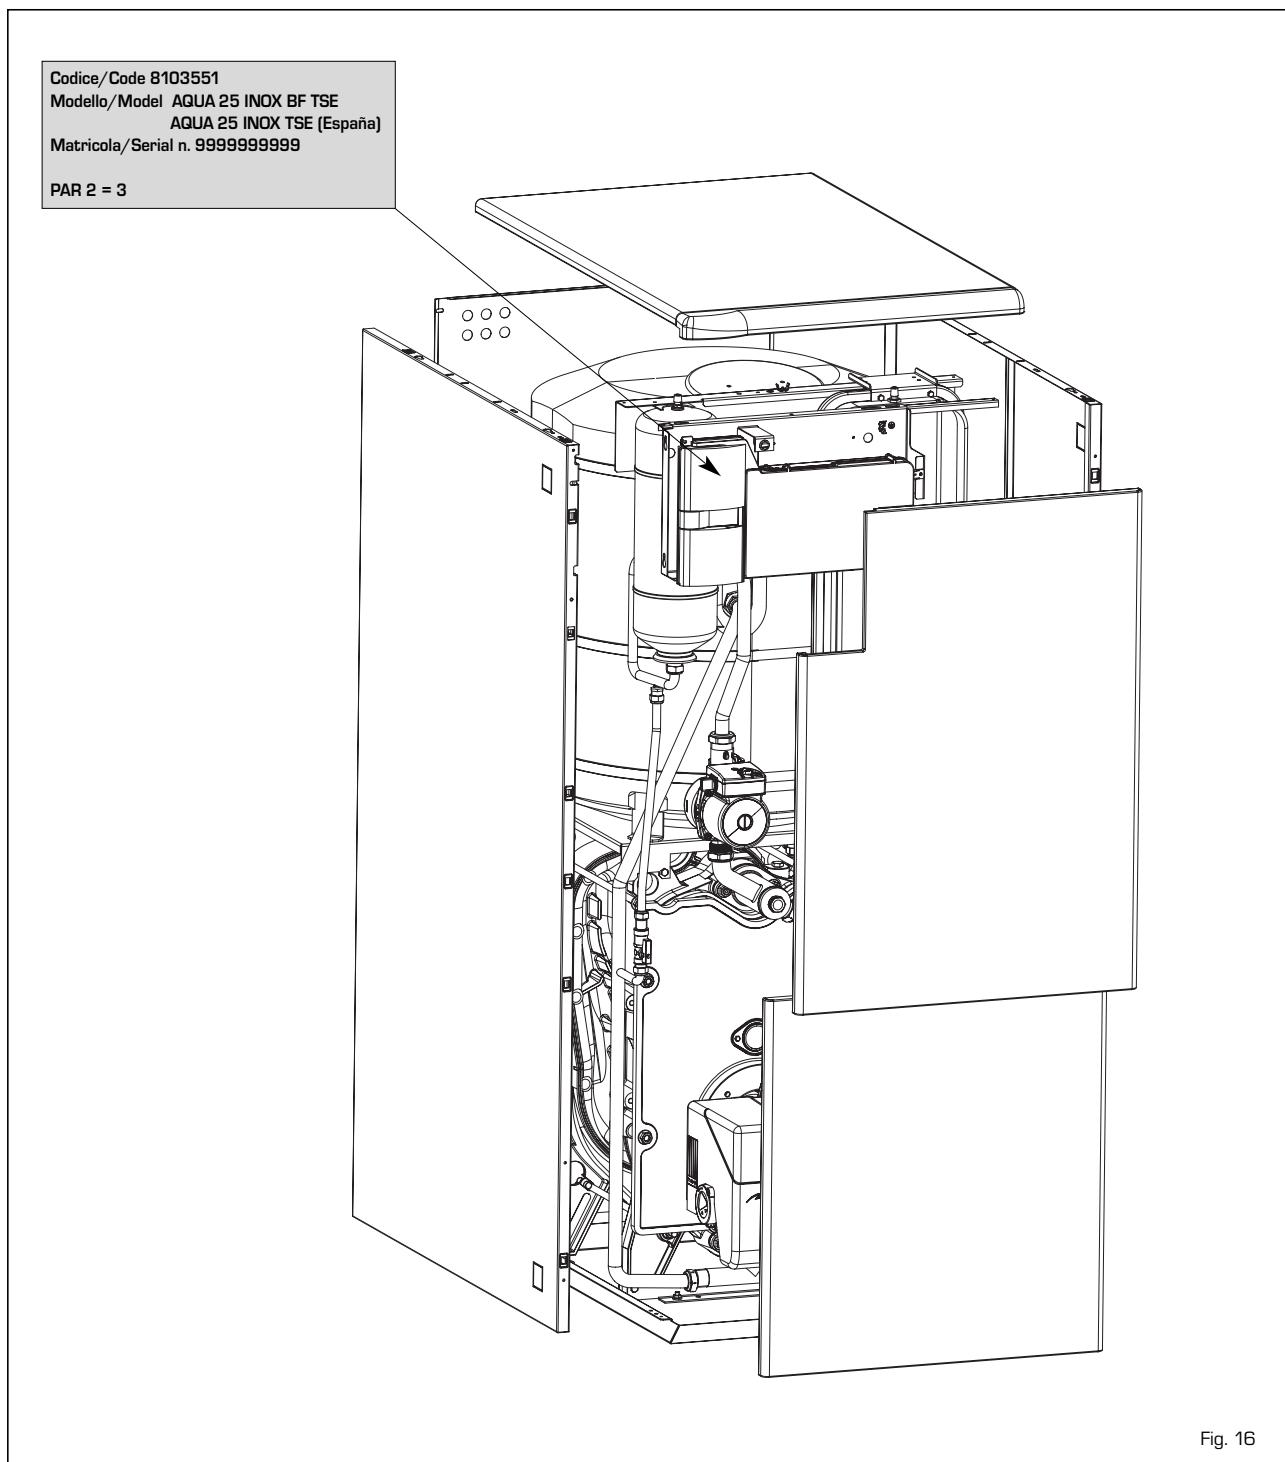

Fig. 16
4.2 DISASSEMBLY OF OUTER CASING [fig. 16]
The shell can be completely disassembled for an easy maintenance of the boiler as shown in fig. 16.